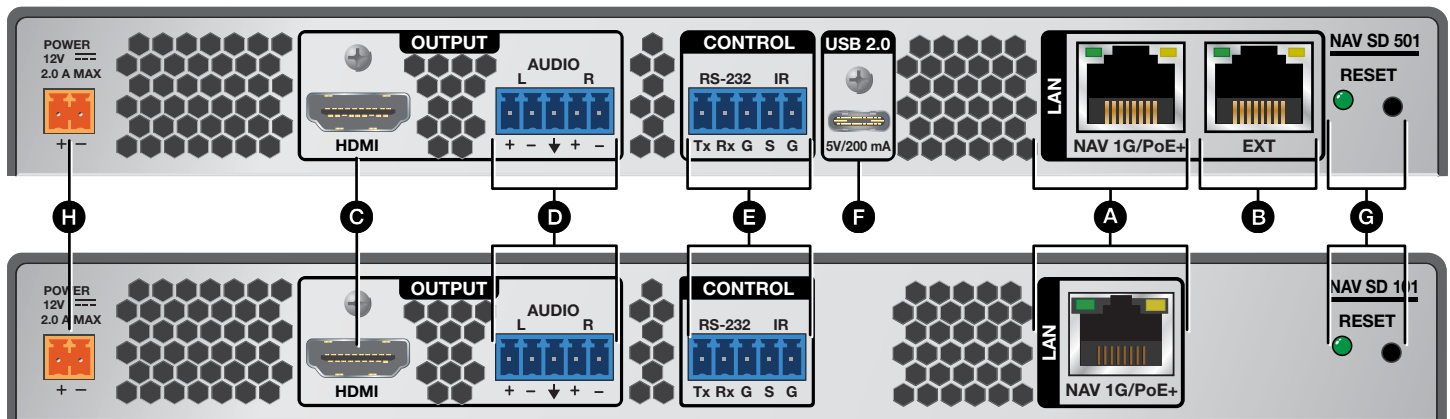
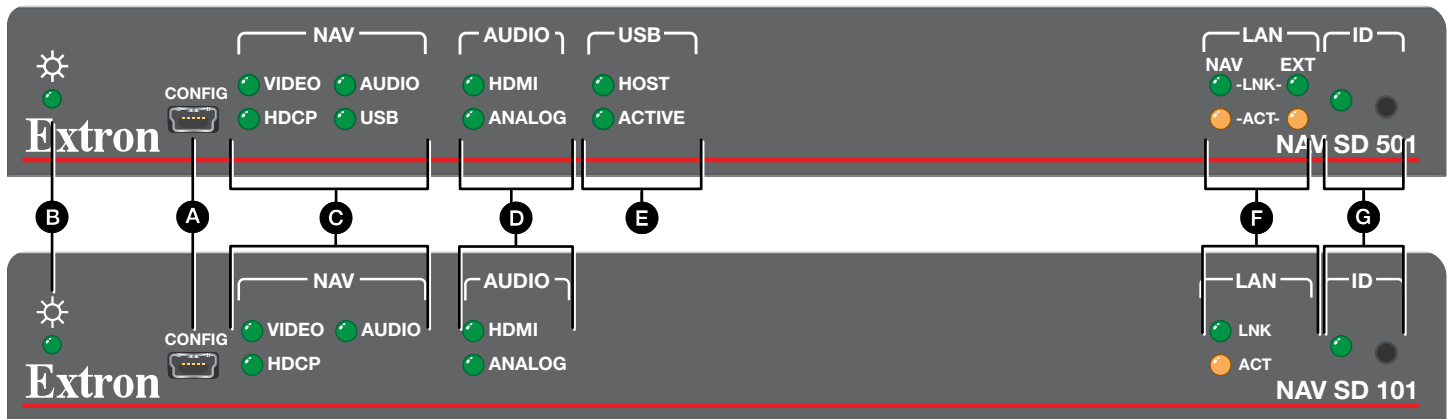

Figure 1. NAV SD 501 and NAV SD 101 Rear Panel Features
Figure 2. NAV SD 501 and NAV SD 101 Front Panel Features
- F **LAN LEDs** (see figure 2 on page 2)— Indicate the status of the network connections, as follows:
- Locally, from the included external power supply and via the power connector (see figure 1, H on page 1).
Connection to the decoder and its embedded web pages can be made via either the front panel Configuration (USB) port (using IP over USB) (see figure 2, A) or the rear panel NAV 1G/PoE+ port (see figure 1, A).